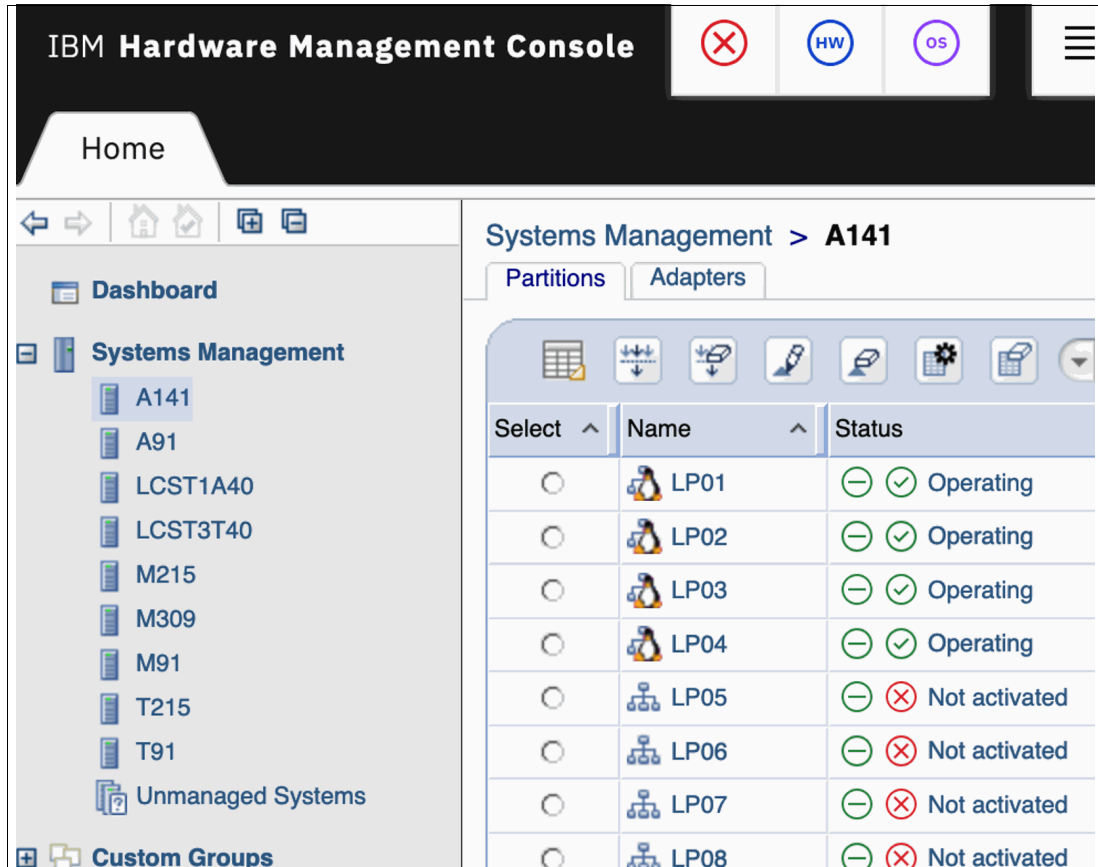

Figure 27 Select the CPC you want to examine
2. Open the **Systems Management** tree and Select the **CPC** you want to examine. See Figure 27 on page 23.